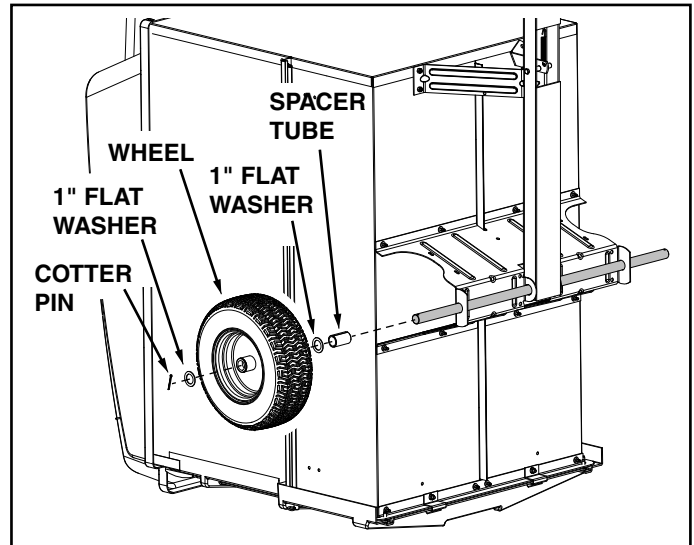

FIGURE 2
3. Assemble a spacer tube, a 1" flat washer, a wheel (valve stem facing out), and another 1" flat washer onto the axle as shown in figure 2. Secure the wheel with a cotter pin, spreading the ends of the pin. Repeat on other end of axle.